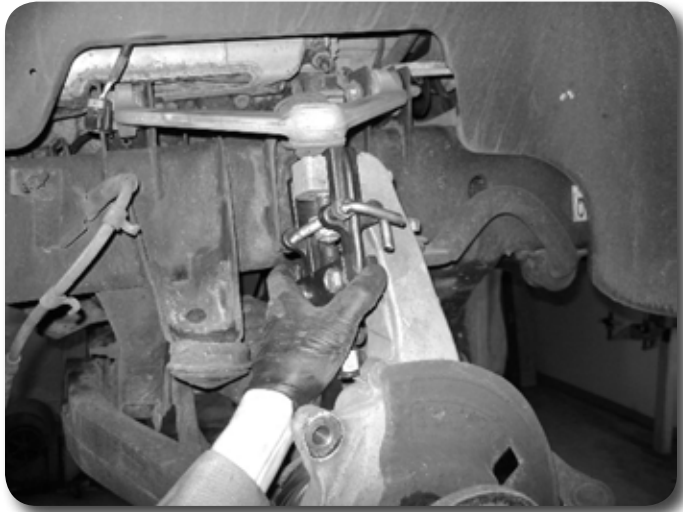

Figure 7
17. Remove the upper and lower ball joint nuts. Reinstall the nuts a few turns by hand. Separate the upper and lower ball joints from the steering knuckle using the appropriate puller. **Figure 7** Take care not to damage the ball joint. Remove the upper ball joint nut and allow the knuckle/CV axle and lower control arm to swing down while sliding the CV axle off of the differential. Remove the CV axle from hub.